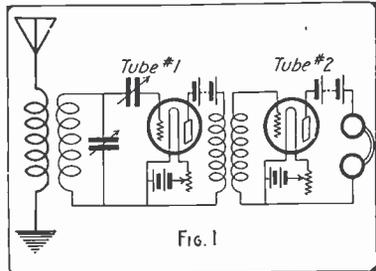
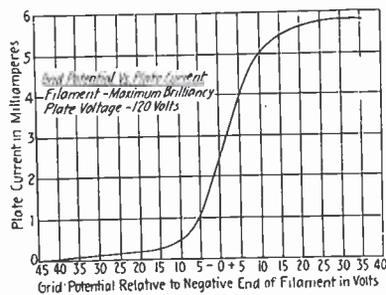
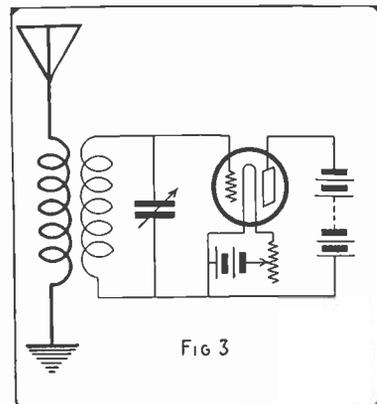

FIG. 1
FIG. 2
FIG. 3
Mark off the position for these, say at about $1/4''$ outside the first and last studs as shown in Fig. 2.
Set the dividers to the dimensions shown for the scale in Fig. 2 and carefully scribe the two semi-circular lines, cutting in fairly
Drill the two holes G' G' by placing the panel in a vise, after which, drilling will be complete. The panel should now look like Fig. 2.
The plug sockets are made by drilling (in the lathe) four 1/4" brass cheese head screws 3/8" long, as shown in Fig. 3 and rounding off the edges as shown at L.
Before the war we were in the habit of seeing the long "stove pipe" inductance coils as a part of long wave receiving apparatus. Times have changed. "The old order changeth giving place to the new." The days of the long coil are passed. The multi-layered or concentrated inductance type has taken its place. The capacity and resistance of these coils is comparatively low, and when used with the ordinary variable receiving condensers a broad range of wave lengths can be obtained. They therefore make an ideal tuning arrangement. Figure 1 shows one of the methods of connecting
Figure 2 is the diagram of the connection for the "inductive feedback." There are many ways of connecting the apparatus, and the amateur must not think that there is a set rule for doing it. Either of these connections will give good results. (Continued on page 198)
The general assembly of the switch is shown in Figure 1. This switch is designed for use with either receiving or low voltage transmitting sets. It is not advisable to allow it to handle voltages over five or six thousand. Contacts, as the reader will see, are provided for both spark and arc work and allow for wires to the north, east, south and west as well as a terminal each for antenna and ground. Additional contacts may be added, but it is seldom that a use will be found for them.
The panel which is shown in detail in Figure 2 is of black "Formica" or "Bakelite," and is to be given a dull grain finish with fine sandpaper and oil. As yet no mechanical process has been found satisfactory in applying the finish just mentioned, and even the manufacturers of commercial apparatus use the hand method. If the builder wishes to stamp letters into the panel or the flush mounting he can make a fine job of it by first heating them in boiling water. "Formica" is not hard on drills if the work is not rushed and they are kept well sharpened.
In order that the switch might be used for transmitting it is necessary that the contacts be well spaced. It's plain to the experimenter that smooth switch action could no longer be expected unless all the contacts were made flush with some surface. The necessary surface is provided by the flush mounting shown in detail in Figure 3. The mounting is of "Formica," and if but a single one is being made, is best turned out in the form of a ring and cut to size with a hack-saw. The holes for the contacts are drilled with a $\frac{1}{4}$ " drill and reamed.
The separator is turned out of $\frac{1}{2}$ " brass rod and drilled with a No. 13 drill. The knob, switch blades and separator are now driven onto the shaft as shown in Figure 1.
Figure 1 gives the dimensions of the magnet core. It consists of a soft piece of iron $\frac{1}{2}$ inch in diameter by one inch long. Over an insulation of empire cloth is wound four layers of No. 24 SCC magnet wire. The winding covers but $\frac{3}{4}$ of the core—the remaining quarter inch is employed for holding same in the base, which has a hole bored slightly smaller than the diameter of the core.
A piece of $1/32$ " spring brass, shown in Figure 2, measuring $2\frac{1}{2}$ inches long— $\frac{1}{2}$ " (Continued on page 203)
Consider now the curve shown in Figure 2, which gives the grid potential VS plate current characteristics of the average three electrode vacuum tube. It will be seen that should the grid potential be at zero when the tube is connected in a circuit, as shown in Figure 3, and a negative charge be impressed on the grid the plate current will drop sharply. Conversely, were a positive charge placed on the grid the plate current would jump in value. Consequently, when the secondary circuit of Figure 3 is put in oscillation by an incoming wave the grid is alternately negatively and positively charged, each variation of the grid potential affecting the plate current. In this manner a current at radio frequency will flow in the plate circuit.
shape of "L." The upright to be three inches long and the bottom part one-half inch. Now drill two small holes in the upright, depending on size of thumb screw and small bolt used. Next a small hole in the bottom part to hold upright in place. The hole, O, in the iron piece is to be threaded. Fig. 2, article "J."
Figure 2 (A) small horn 3x2 inches which can be dispensed with, as it merely increased the volume of the sound emitted by the reproducer. (B) Phonograph reproducer mounted in wire loop (D) which is attached to two binding posts (E). (F) Coil (preferably wound with No. 40 B. & S. enameled wire) This small coil is wired to the two small binding posts on the back of the board. (G) Small horseshoe magnet taken from A, Bi-Polar receiver. (H, I, J.) Upright arrangement made from iron strips (No. 2 in Fig. 1) and brass strip (No. 3 in Fig. 1) and A, thumb screw for pulling "H" toward "J" to adjust steel wire "C."
Take the old bi-polar receiver apart and if the winding on one of the coils is not good take the wire off and rewind with No. 40 enameled copper wire; wind very carefully so as to enable the coil to operate good. Now take the horseshoe magnet that was in the receiver and put the coil between the poles and use the same brass bolt that was in the magnet at first to hold the coil in place; use some thin sheets of brass to bush the coil so that it is half way between the positive and negative pole. Figure 2, articles F and G.
longer part to be one and five-eighths inch long and the bottom, "L," being one-half by one-half inch. Drill a hole as shown to take the small bolt used to fasten same to the iron upright described above. Fig. 2, article "H."
Take the phonograph reproducer and remove the weight and the point which will give you access to the small loop fastened to the center of the diaphragm. You are now ready to mount the reproducer in the brass strip, "D," Fig. 2.
Figure 1 shows the way in which the loop for holding the reproducer and the
Figure 3 gives the layout of the base board.
The supports (a) and (d) must be made of some good insulating material, such as hard rubber, bakelite, etc., as it is essential that the tubes be thoroly insulated to prevent losses, the support (d) is drilled as shown in Fig. 3, the hole being slightly smaller than the tube (c), this tube can